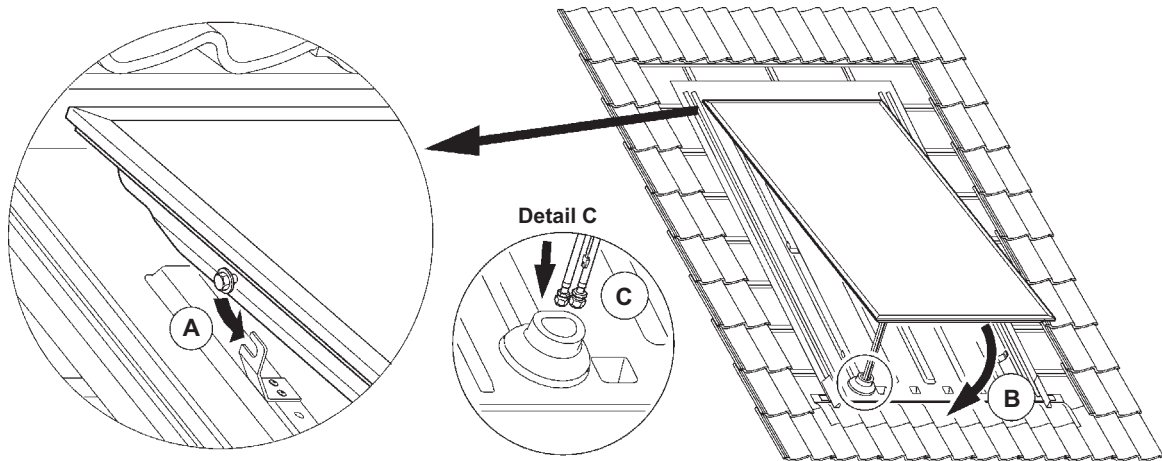

Fig. 7 - Fit the collector
- Portrait collectors have an M8 bolt screwed loosely into the top left hand fixing hole, this is to aid safe fitting of the collector. Keeping the bottom of the collector elevated to avoid damaging the pipes and sensor cable, hook the top left pre-fixed M8 bolt on the collector into the mounting plate on the flashing sheet 'A' as shown in Fig. 7.
Guide the collector pipes and sensor cable through the boss on the flashing sheet and into the roof space as shown in detail 'C' in Fig. 7, whilst lowering the bottom of the collector into position 'B' as shown in Fig. 7.